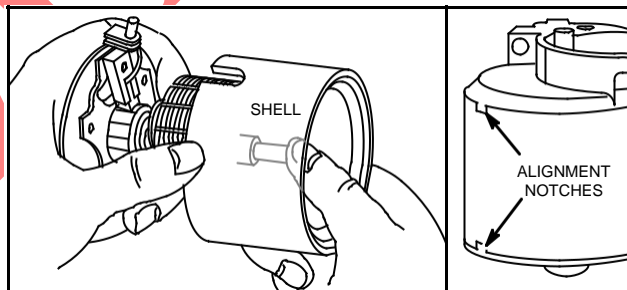

Fig. 659 – INSERTING ARMATURE
4. Support armature shaft and slide it slowly into starter housing, as shown in Fig. 659.
7. Notches in end cap, housing and end head must be aligned, Fig. 659.
8. Notches in end cap, housing and end head must be aligned, Fig. 659.